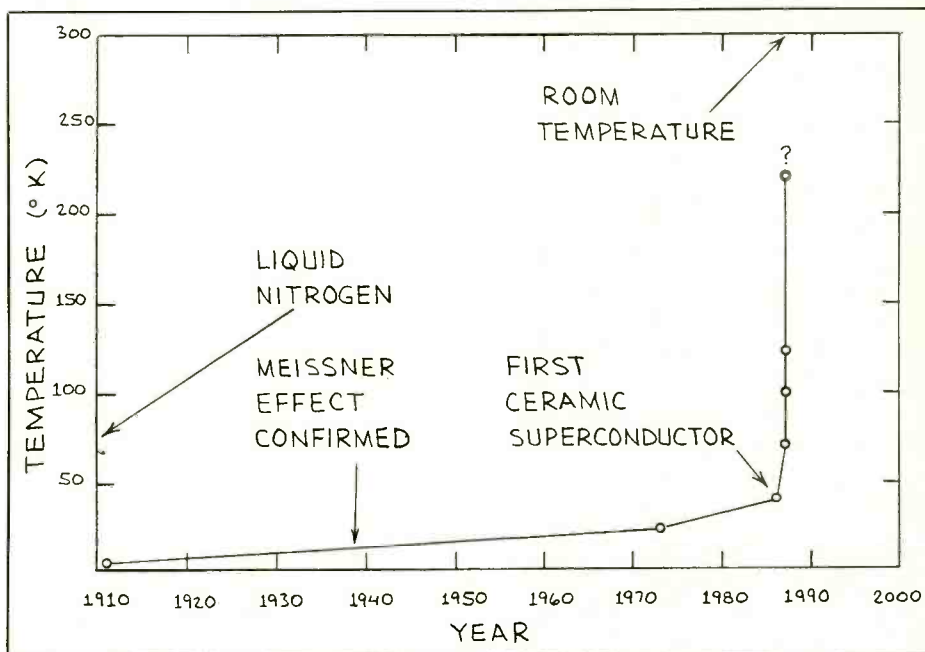
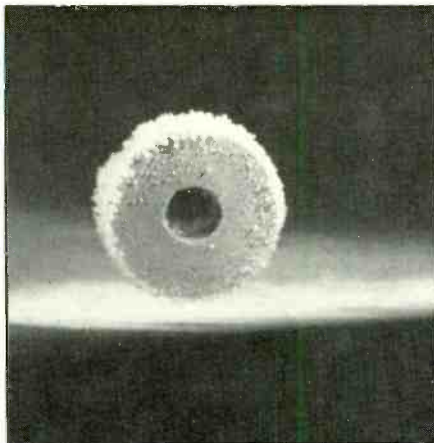
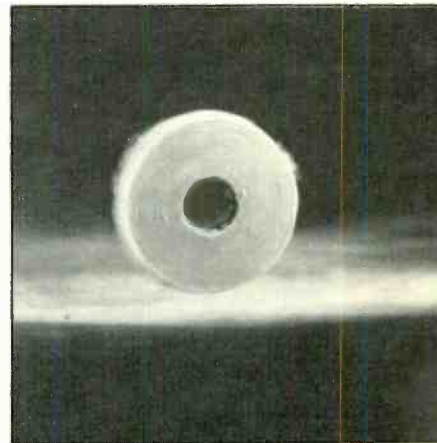

Fig. 1. Major advances in superconductivity.
Fig. 5. A perfectly stationary magnet floating above a superconductor pellet.
Fig. 6. The magnet rapidly spinning after given a gentle nudge.
of -15 volts." Turn the page upside-down for correct orientation of the photos in Fig. 1. The trace in (A), now lower-right, is triggered on the rising edge of the square pulse. The manufacturer of the ICM7250 chip is Intersil. Finally, use the corrected wiring diagram shown here instead of the one shown in Fig. 6.
• In Fig. 1 of "A miniature LED Beacon" (January 1988), the internal connections going to pins 8 and 2 of the LM3909 should be reversed.
Figure 1 graphically illustrates the pace of developments in superconductivity. Even if the present trend slows down,
Figure 5 shows a magnet hovering above a superconductive pellet. Notice the layer of frost formed from water vapor in the air. In Fig. 6, I have spun the magnet with a gentle nudge from a fingertip. Figures 7 and 8 show the same effects when the magnet has been gently tilted to one side.